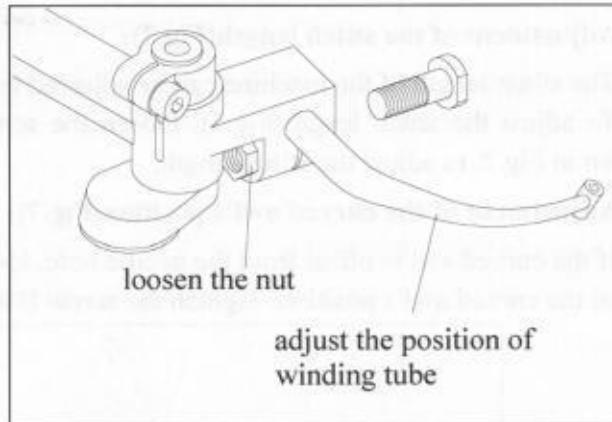

Fig.4
4.2 Adjustment of the winding tube(Fig.4):
The correct position of the winding tube: Turn the pulley in the correct direction, let the winding tube make the round of the hook needle and the winding tube don't touch the hook needle. To adjust the winding tube(Fig.4), loosen the nut then move the winding tube to it's correct position.